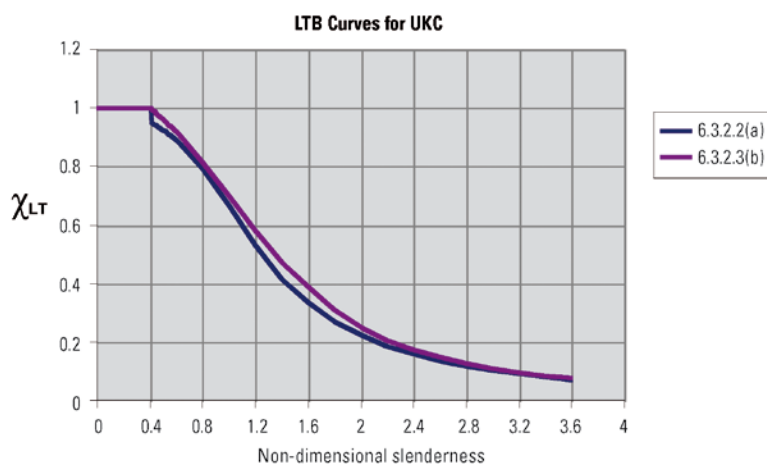
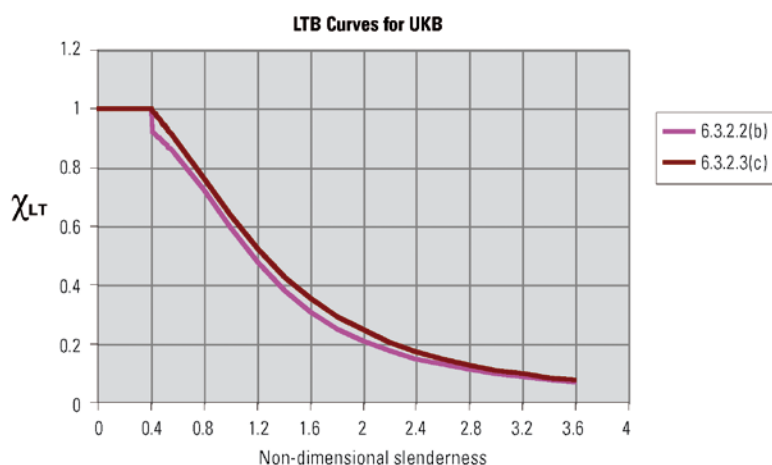
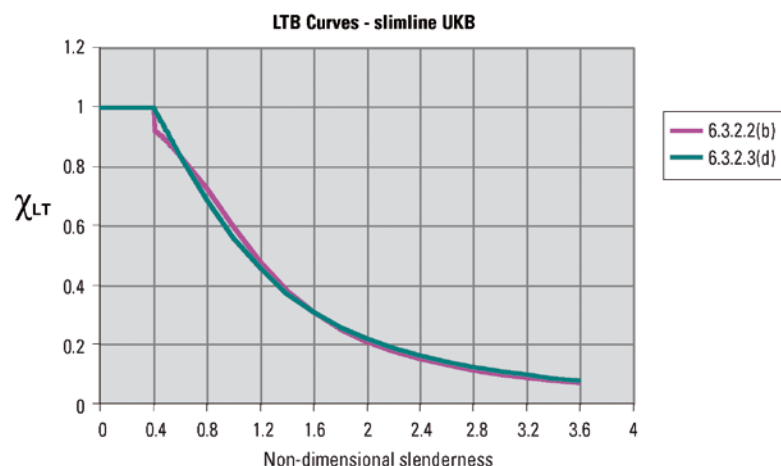

Figure 2 Choice of curve for UKC ( $h/b \leq 2$ )
Figure 3 Choice of curve for most (but not all) UKB ( $2 < h/b \leq 3.1$ )
Figure 4 Choice for 'slimline' ( $h/b > 3.1$ ) UKB 1016x305, 610x178, 533x165
- This apparent advantage of choosing 6.3.2.3 is reduced, though mostly not eliminated, by the differences between Tables 6.4 and 6.5 which assign curves to sections. For example, for a UKC section the choice is between curve **a** of 6.3.2.2 and curve **b** of 6.3.2.3, as shown in Figure 2, and it will remain advantageous to opt for the latter. Similarly for most UKB sections curve **c** of 6.3.2.3 will be preferable to curve **b** of 6.3.2.2, as shown in Figure 3, but beware that the UK NA, with its replacement for Table 6.5, has penalized what we might describe as 'slimline' sections with  $h/b > 3.1$  (which includes several of the recent additions to the UKB range) by assigning them to curve **d** of 6.3.2.3. Depending on slenderness, it may be advantageous to choose curve **b** of 6.3.2.2 for these, as shown in Figure 4 (over page).